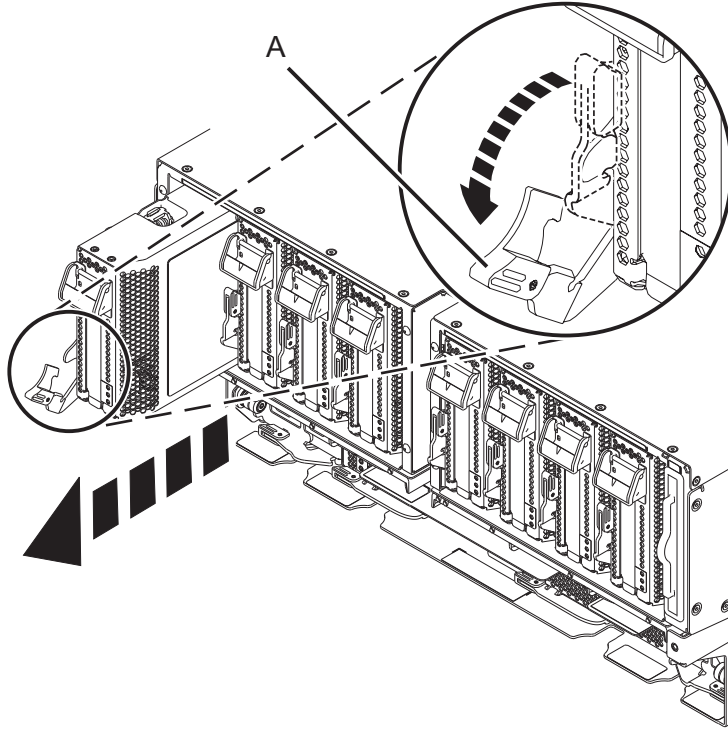

Figure 26. Removing a PCIe adapter cassette from the system
- b. Rotate the terracotta cassette handle **(A)** in the direction that is shown in Figure 26 on page 26 and then press down on the handle **(A)** to disengage the cassette from the slot connectors.